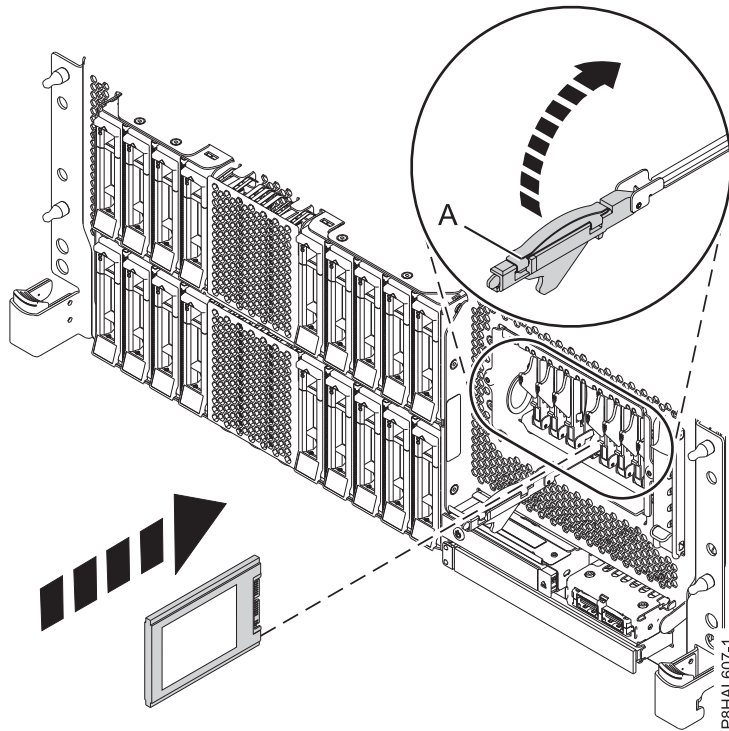
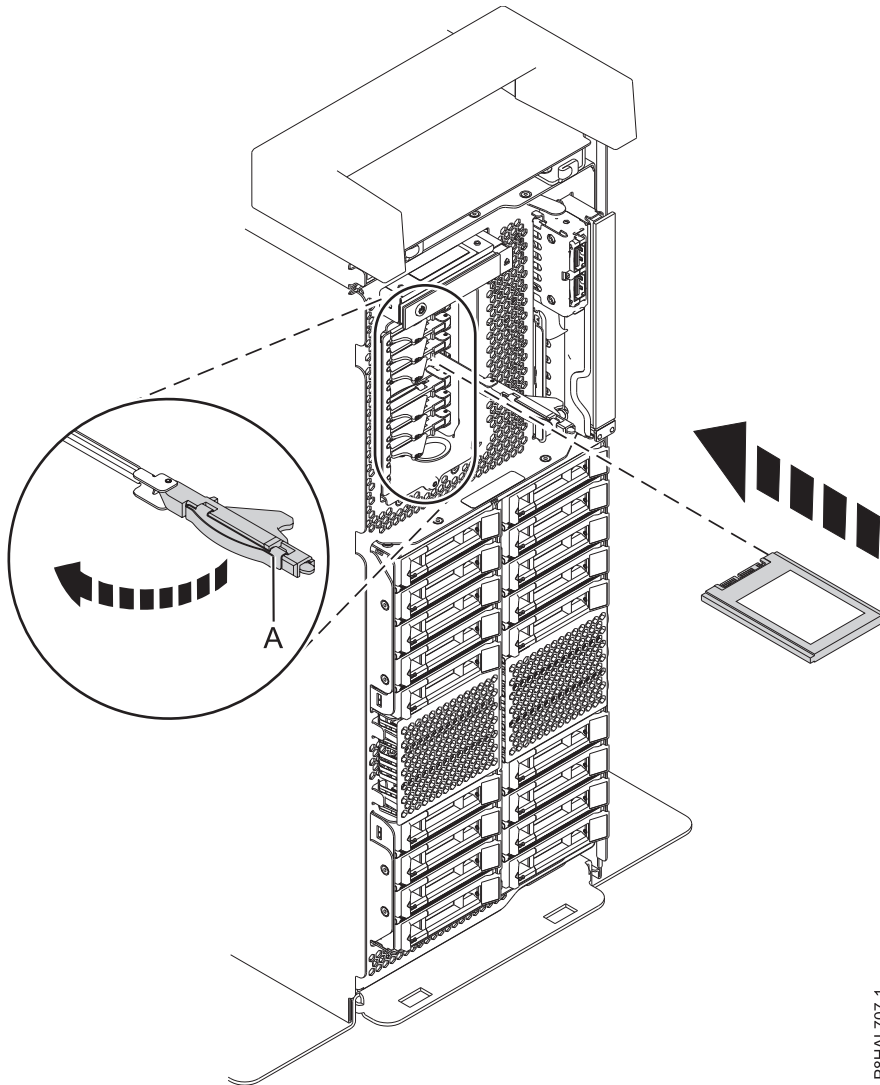

Figure 14. Installing an SSD in a rack-mounted expanded function system
Figure 15. Installing an SSD in a stand-alone expanded function system
3. With the SSD drive bay handle (A) in the unlocked position, pull the lever outward to gain access to the guide rails in the SSD slot. Support the bottom of the SSD as you align it with the guide rails in the SSD slot. See Figure 14 on page 19 and Figure 15 on page 20.
4. Slide the SSD into the system until the drive stops, and then lock the SSD by rotating the bay handle (A) in the direction shown. See Figure 14 and Figure 15 on page 20.